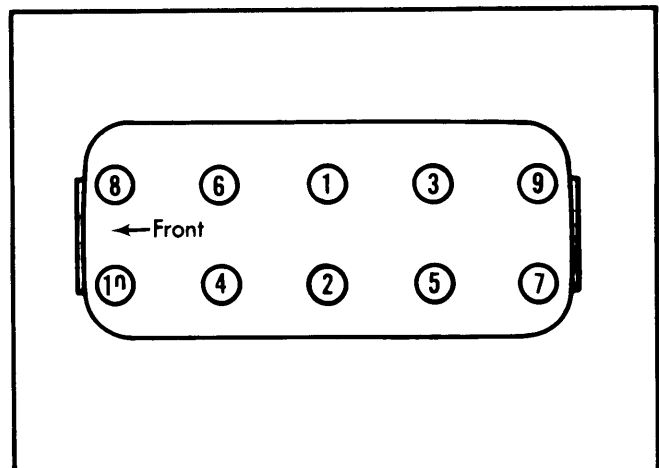

Fig. 2 Cylinder Head Tightening Sequence
- 5) To install, reverse removal procedure. Clean mating surfaces and use new gasket. Install gasket with correct side up. Tighten bolts to specification in sequence shown in Fig. 2. Adjust valve clearance.